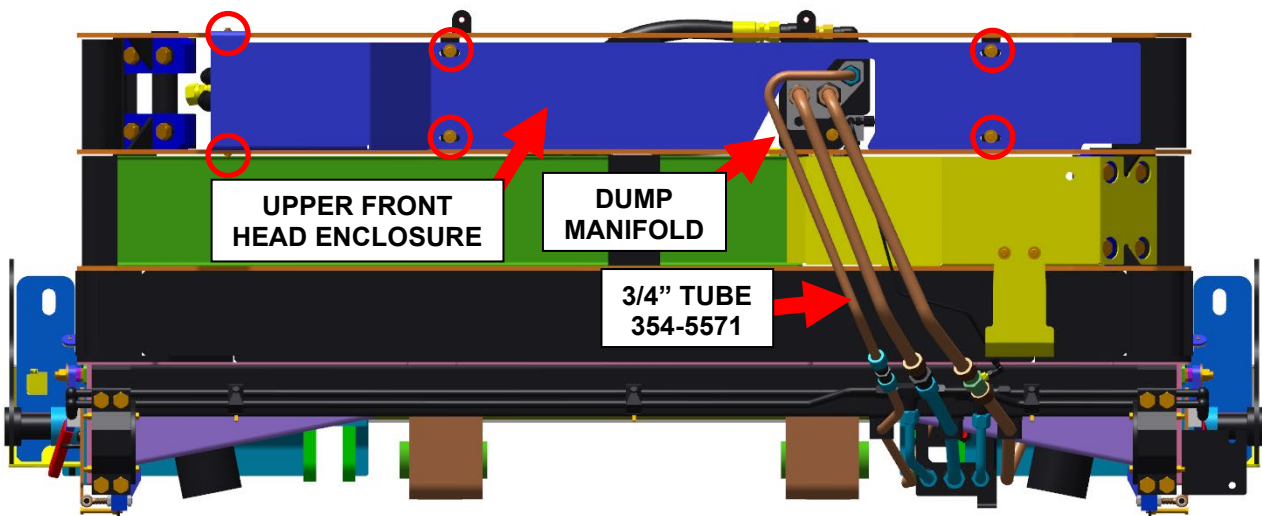

Figure 2. Upper Front Head Enclosure and Connecting Hardware (Red Circles)
- (1) Make sure that the work area and affected area on the unit is thoroughly cleaned to prevent hydraulic system contamination.
- (2) Position a container to catch the hydraulic oil that might be released from hydraulic connections when loosened.
- (3) Remove the six (6) bolts and associated hardware from the upper front head enclosure. Set upper front head enclosure and associated hardware aside for reuse later. See **Figure 2**.
- (1) Take the unit out of Lock-Out/Tag-Out Mode.
- (2) Operate all unit functions. Then check for leaks. If there are leaks, loosen and re-torque the hydraulic fittings that are leaking and then check again for leaks. When there are no leaks, check hydraulic oil level and add oil if needed. Contact Technical Services if leaks continue. **DO NOT REUSE THE HYDRAULIC OIL DRAINED FROM THE SYSTEM DURING DISASSEMBLY.**
- (3) Reinstall the upper front head enclosure using the six (6) bolts and associated hardware from Step 3.A.(4). See **Figure 2**.